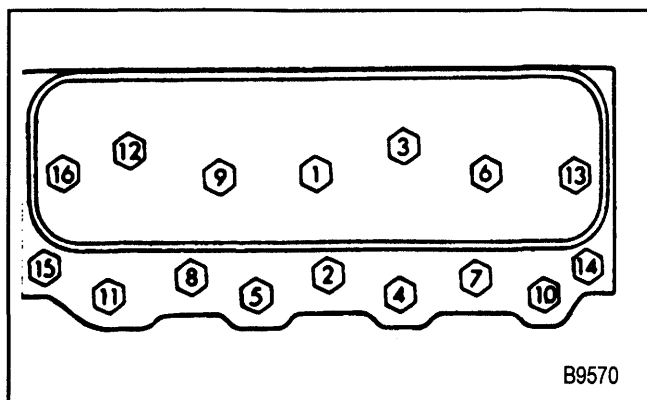

Figure 13—Cylinder Head Bolt Tightening Sequence
- Cylinder head bolts in three steps using the sequence shown in figure 13.